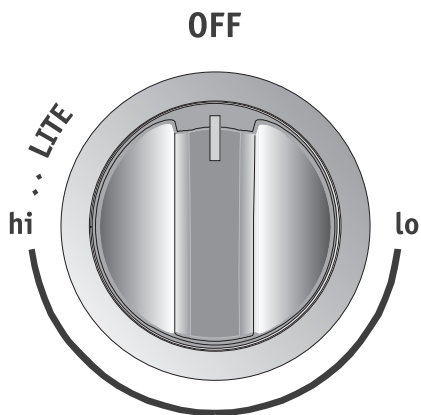

Figure 8: Gas knob LITE position
- 3. Release the knob and rotate to the **LITE** position (Figure 8). Note: All four electronic surface ignitors will spark at the same time. However, only the burner you are turning on will ignite.